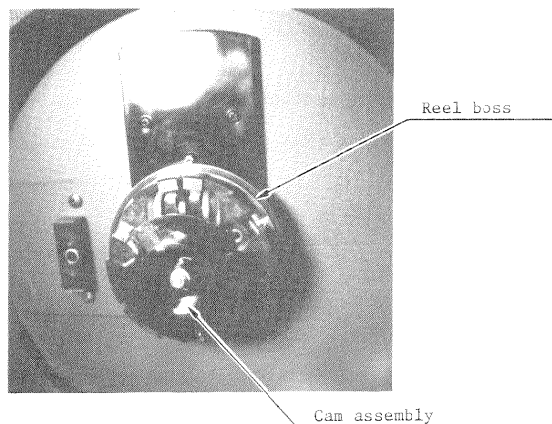
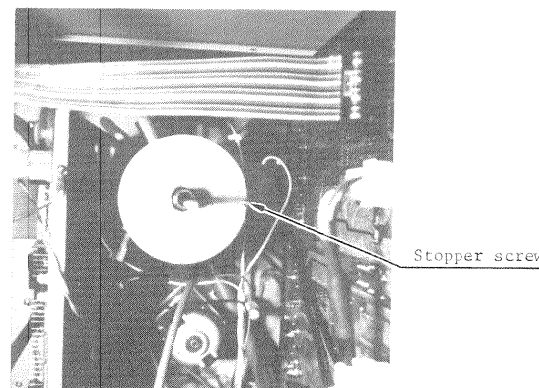

Fig. 3
Fig. 2
1. Measure the distance between the joint flange surface and the tap of the reel motor shaft ((a) in Fig. 2) with calipers. Adjust the distance to 7.5mm, and tentatively secure the joint with the screws (C).
2. Secure the machine reel with the screws (B). Remove the screws (D) and remove front flange.
3. At (C) in Fig. 3, adjust the distance between the rear flange and the reference plate (subcolumn) ((b) in Fig. 3) to from 0 to 0.1mm using the adjusting tool (B960-0110-TC10A) shown in Fig. 4.